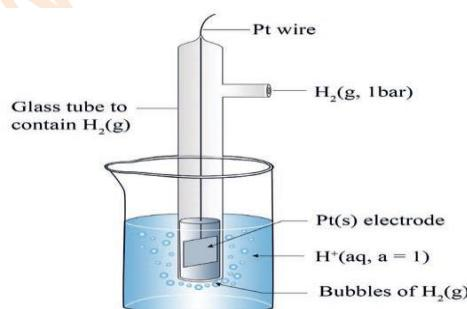

Figure 2. 7: The Standard Hydrogen Electrode (SHE)
- The standard hydrogen electrode(SHE) consists of a platinum electrode that has H_2 gas at 1 atm bubbling through it and is immersed in 1 M strong acid $H^+(aq)$ or $H_3O^+(aq)$ (**Figure 2. 7**).